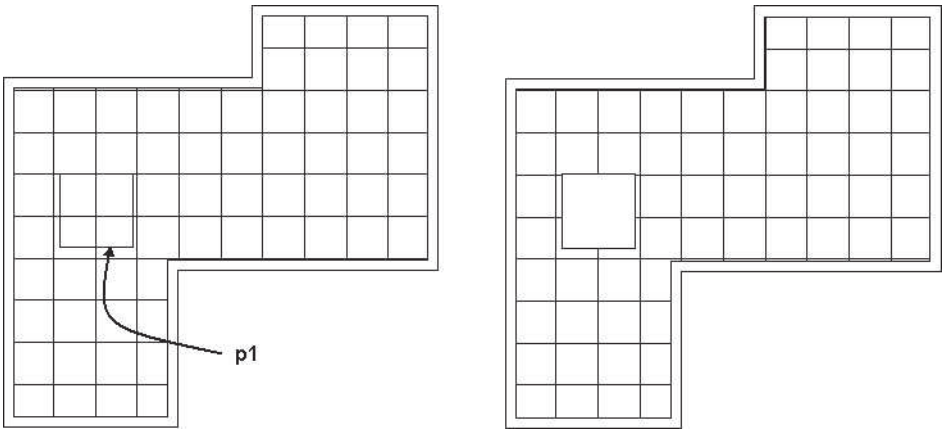

FIGURE 13.60 *Creating a hole in the ceiling grid*
9. Select the ceiling grid and choose Add Hole from the Clipping panel. Respond to the workspace prompts as shown below to remove the ceiling grid from inside the rectangle shown in Figure 13.60.
Select a closed polyline or AEC object for hole: *(Select the rectangle at p1 as shown in Figure 13.60.)*